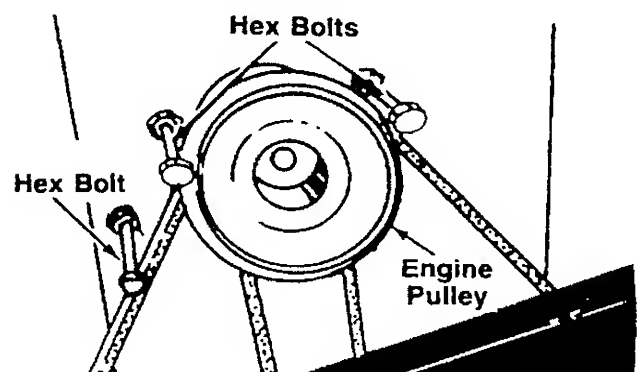

FIGURE 22.
3. Remove the three hex bolts (belt keepers) from the engine pulley belt guard. See figure 22.
Make certain hex bolts are reassembled as shown in figure 22.